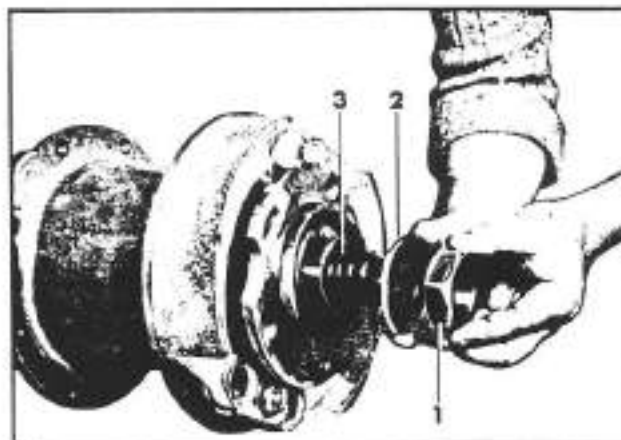

Fig. 3-58. Removal of the flange retaining components
- Loosen and remove the nut (1; fig. 3-58). Take off the washer (2; fig. 3-58) and the seals (3; fig. 3-58).